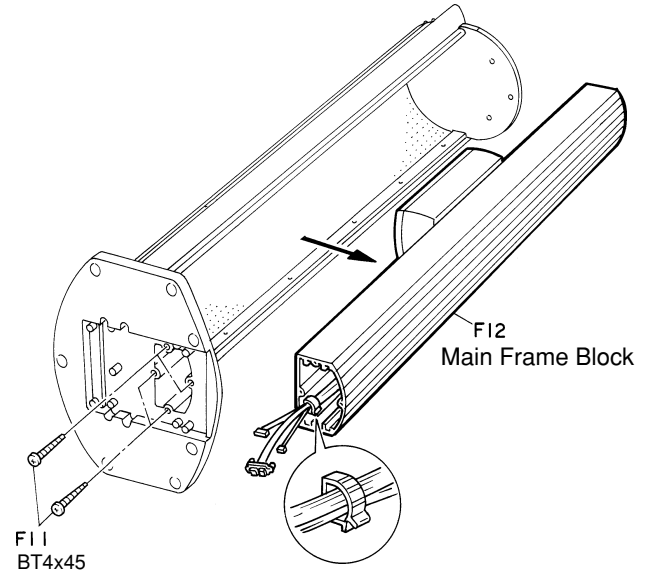
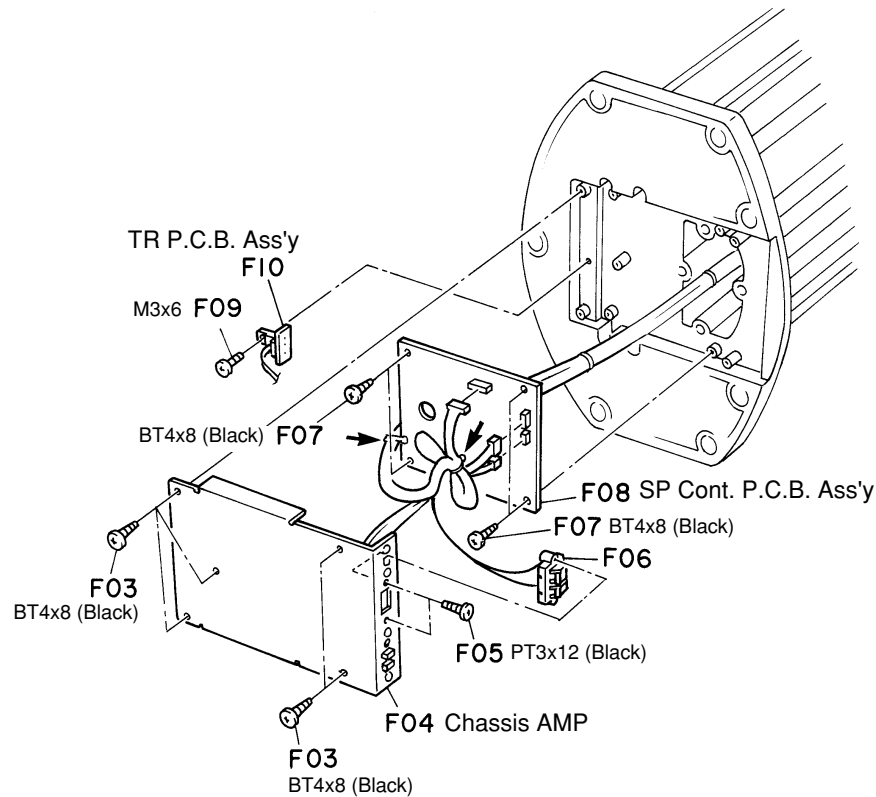

Fig. 1.4 Bottom View
Fig. 1.3 Bottom View
- (5) Remove the 5 screws F03 (BT4x8 + Binding (Black)) and detach F04 (Chassis AMP). See Fig. 1.3.
- (6) Remove the 2 screws F05 (PT3x12 + Binding (Black)) and take off F06 from F04 (Chassis AMP). See Fig. 1.3.
- (7) Remove the 4 screws F07 (BT4x8 + Binding (Black)), cut the 2 Insu-locks (shown by the arrows), disconnect all connectors, and detach F08 (SP Cont. P.C.B. Ass'y). See Fig. 1.3.
- (8) Remove the 1 screw F09 (M3x6 + Binding) and detach F10 (TR P.C.B. Ass'y).
- (9) Remove the 4 screws F11 (BT4x45 + Binding) and carefully remove F12 (Main Frame Block). See Fig. 1.4.